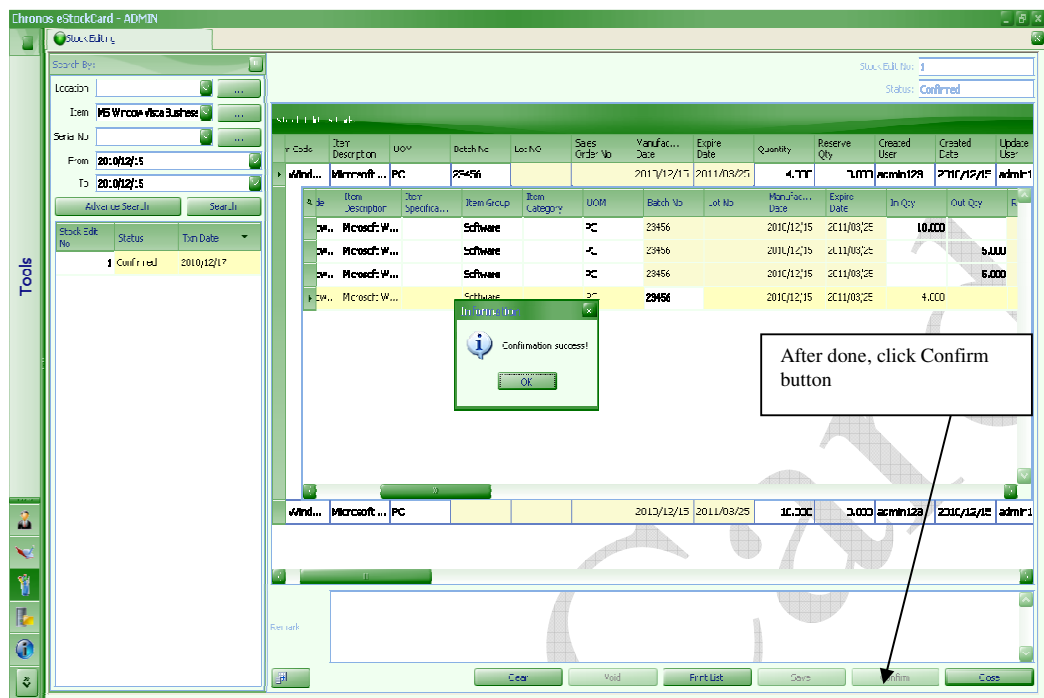

Fig. 88
5. Once done, Click on the Confirm button. All data will be stored into the report. (Fig. 88)